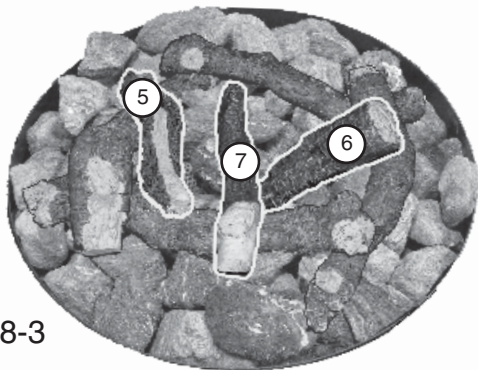

Fig. 18-3
4. Lay the remaining logs across the already positioned logs in an attractive pattern (see Fig. 18-3).